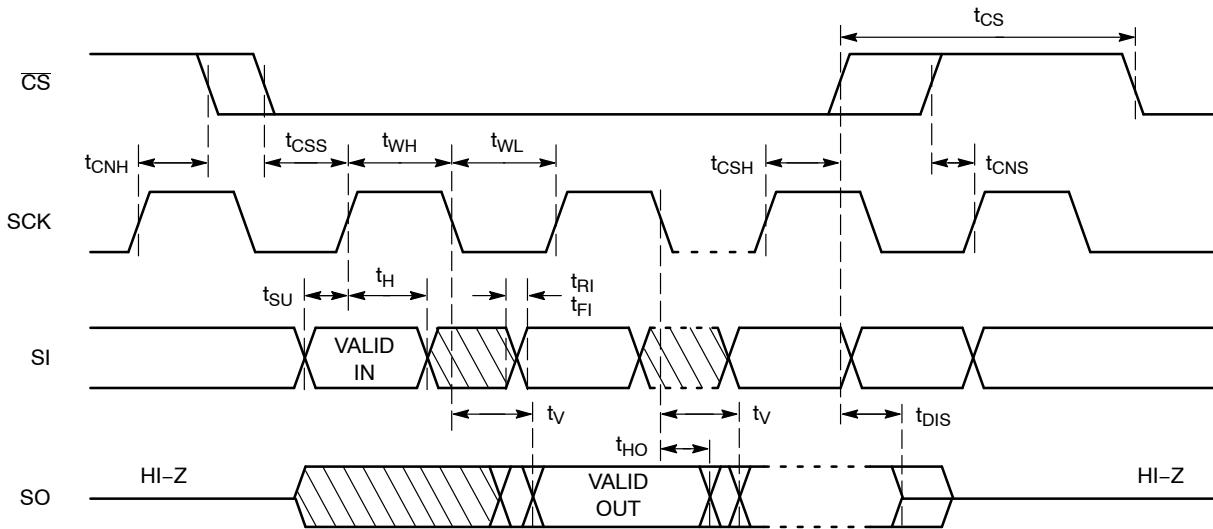

Figure 2. Synchronous Data Timing
7. t_{WC} is the time from the rising edge of CS after a valid write sequence to the end of the internal write cycle.8. **All Chip Select (CS) timing parameters are defined relative to the positive clock edge (Figure 2). t_{CSH} timing specification is valid for die revision E and higher. The die revision E is identified by letter “E” or a dedicated marking code on top of the package. For previous product revision (Rev. D) the t_{CSH} is defined relative to the negative clock edge.**
After a high to low transition on the $\overline{CS}$ input pin, the CAT25640 will accept any one of the six instruction op-codes listed in Table 9 and will ignore all other possible 8-bit combinations. The communication protocol follows the timing from Figure 2.